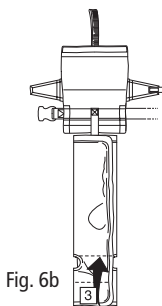
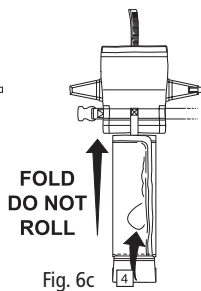

Fig. 6b
Fig. 6c
- 3) Starting at the top of bladder, make your next fold at the dotted line screened on the bladder (Fig 6b, Fold #3). Fold on the next dotted line (Fold #4). Continue folding the bladder toward the pouch (Fig.6c).